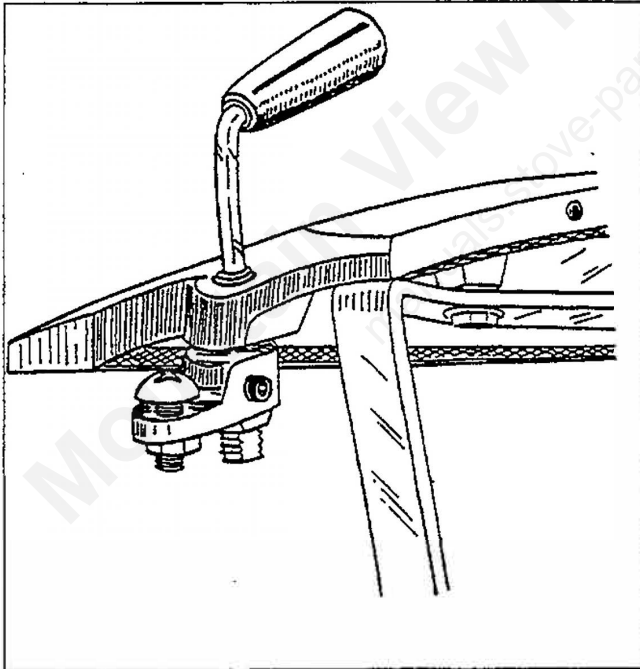

Figure 13. Ashdoor handle assembly
26. Assemble and install the ashdoor. Screw the socket, button head bolt into the stepped side of the latch pawl. **(Figure 13)**. Thread the hex nut onto the end of the bolt and tighten it finger tight against the flat side of the pawl. Screw the socket set screw into the handle shaft hole of the pawl. Slide the ashdoor handle shaft through its hole in the ashdoor. Slide the pawl onto the shaft so that the pawl offset is opposite the handle curve. Ensure that the pawl is against the ashdoor and that the handle turns without binding. Tighten the set screw in the pawl. Thread the jam nut onto the handle shaft and tighten it against the pawl. Position the ashdoor between the bottom hinge panel and the bottom of the stove; slide the ashdoor hinge pin upward through the bottom hinge, through the ashdoor, and into the socket of the allen bolt holding the left leg to the